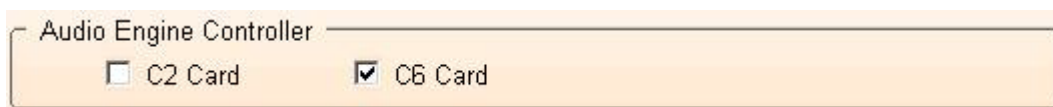

Figure 21 - Audio Engine Controller selection
6. Tick either **AE-C2** or **AE-C6** for the **Controller Card**. As shown in Figure 21 below.